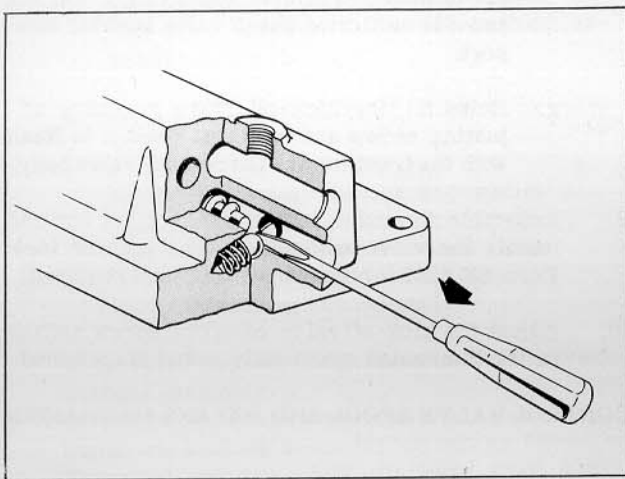

Figure 11
5. While still holding the valve assembly with the detent cross-passage facing straight up and down, insert a screw driver into the front end of the spool bore. Position the blade flat of the screw driver over the detent ball as shown in Figure 11.